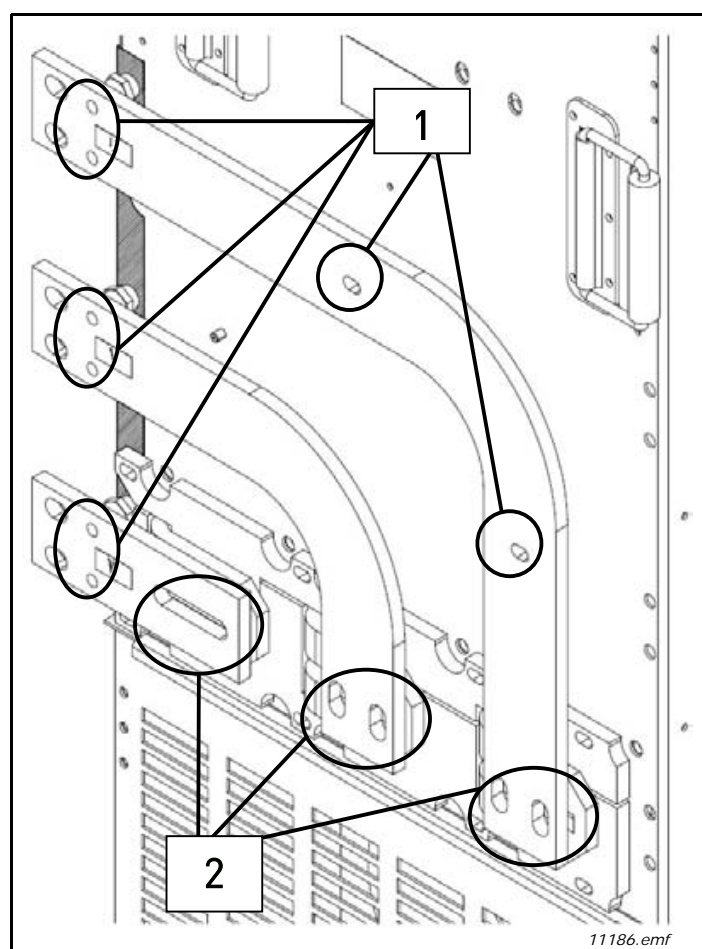

Figure 30. Left-side connection
5. Place the bus bars like in Figure 30.
6. Close fastenings numbered by 2 in Figure 30.
7. Close fastenings numbered by 1 in Figure 30.